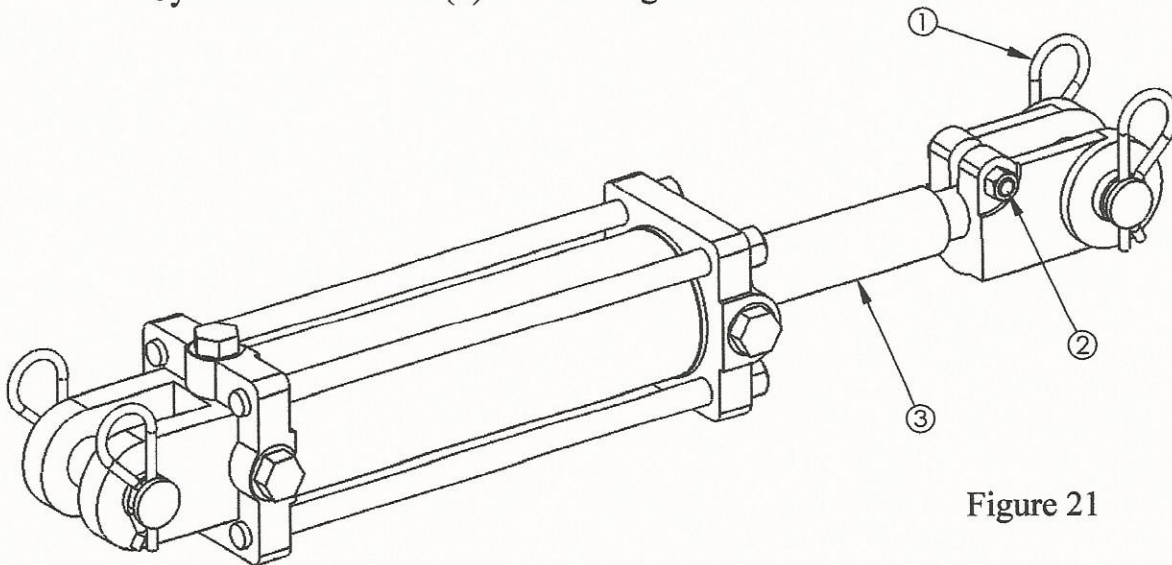

Figure 21
F) Hydraulics (Refer to Figure 21)